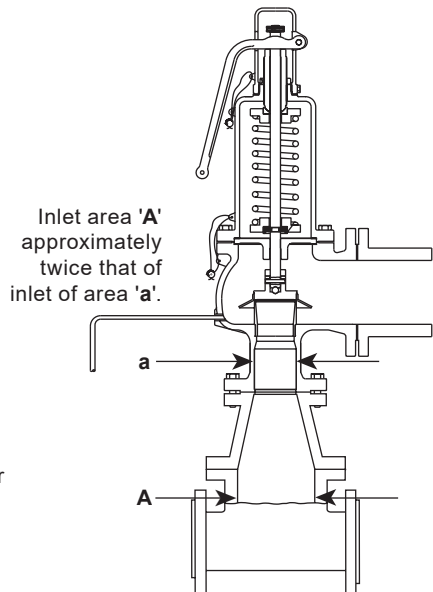

Fig. 8
- 6.4 The inlet pipe connection should not be smaller than the valve (see Figures 8 and 9, page 20).